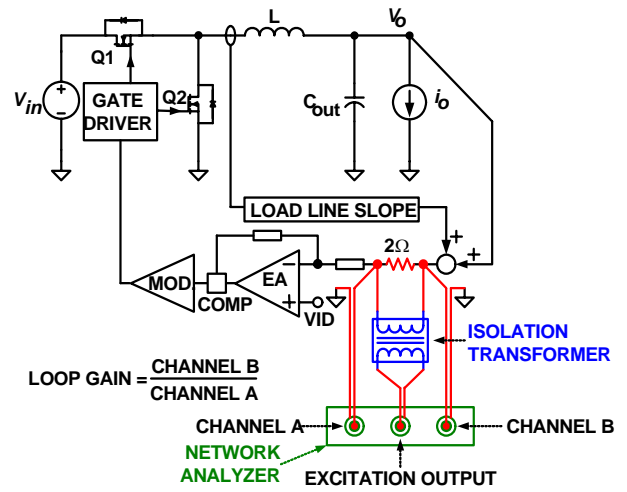
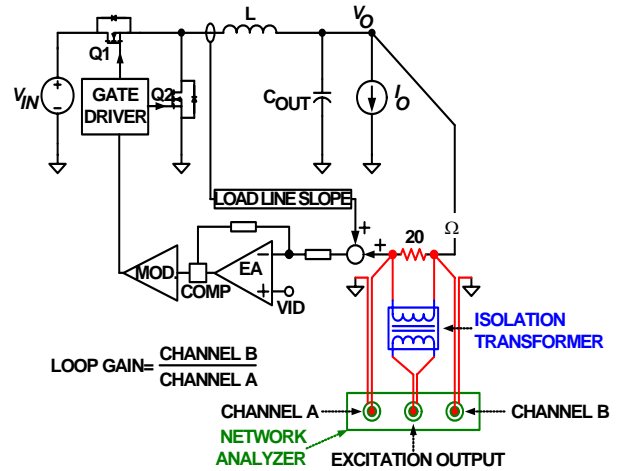

FIGURE 24. LOOP GAIN  $T1(s)$  MEASUREMENT SET-UP
FIGURE 25. LOOP GAIN  $T2(s)$  MEASUREMENT SET-UP
A VR with active droop function is a dual-loop system consisting of a voltage loop and a droop loop which is a current loop. However, neither loop alone is sufficient to describe the entire system. The spreadsheet shows two loop gain transfer functions, T1(s) and T2(s), that describe the entire system. Figure 24 conceptually shows T1(s) measurement set-up and Figure 25 conceptually shows T2(s) measurement set-up. The VR senses the inductor current, multiplies it by a gain of the load line slope, then adds it on top of the sensed output voltage and feeds it to the compensator. T(1) is measured after the summing node, and T2(s) is measured in the voltage loop before the summing node. The spreadsheet gives both T1(s) and T2(s) plots. However, only T2(s) can be actually measured on an ISL95831 regulator.